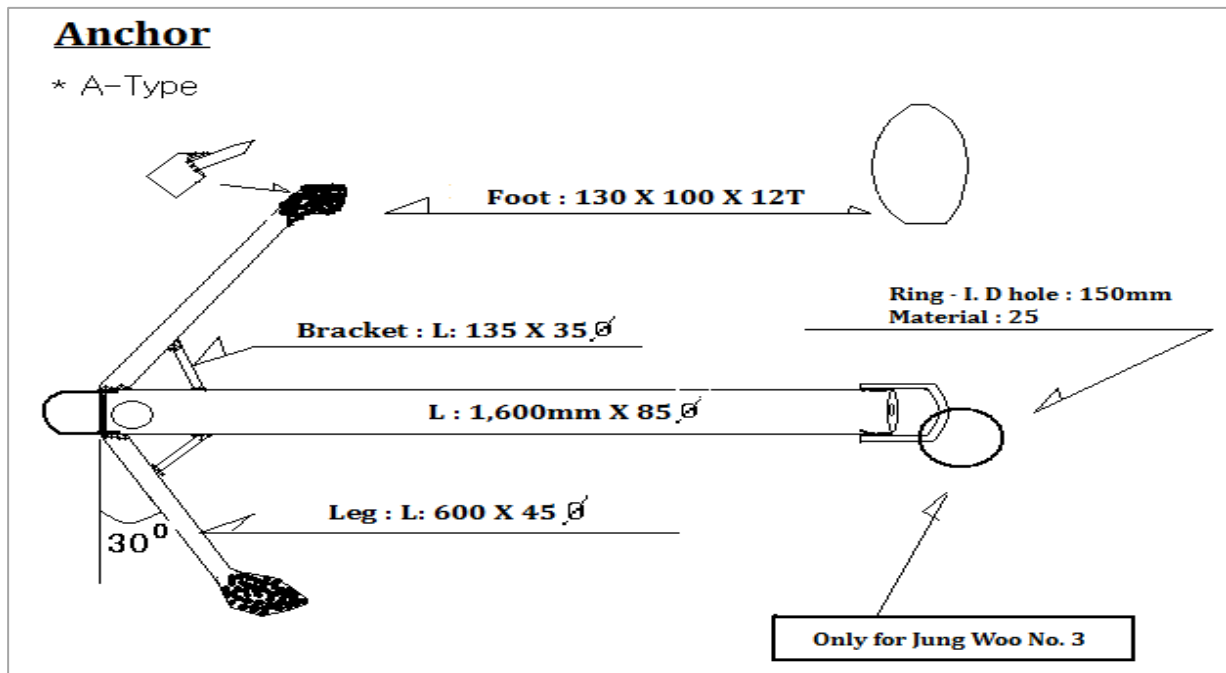

Figure 2 Anchor design
2) Anchor: A heavy hook to fasten the downline to the sea floor. It weighs about 100kg to 120kg (see Figure 2 for specific dimensions).